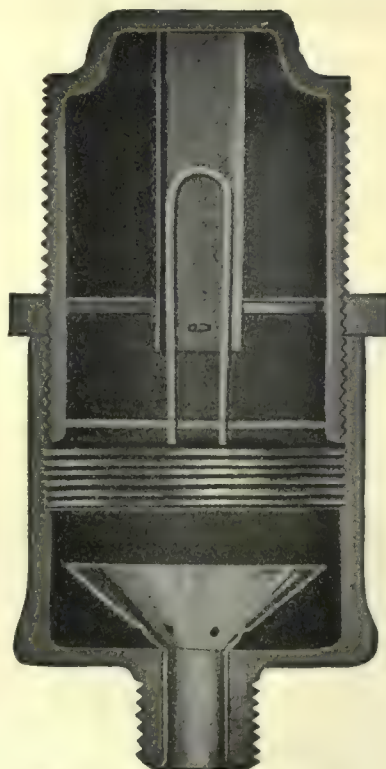

Fig. 6.—Interior View of Grease Cup.
The loose disc is made in one operation, the cup disc is also made in one operation. The staples are made in one operation in adjustable dies, adjustable to suit the different sizes of cups. The tube is made in two operations, (1) cut out and fold and (2) bend ends over. Fig. 5 shows the parts of the cup and Fig. 6 is a sectional view showing the assembled parts. The hexagon nut is made in two operations, (1) punching, (2) tapping. There is no loss of material as the centre of the large one is used for the hexagon nut of the size smaller, etc.